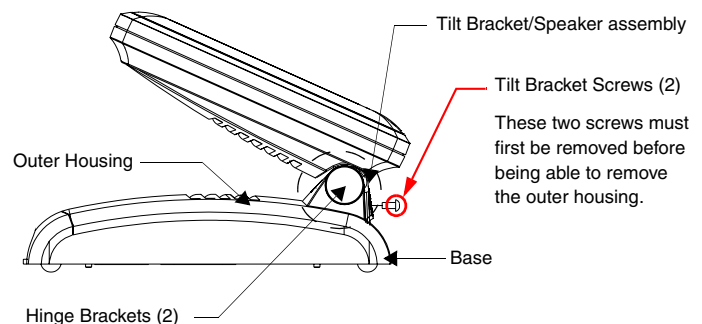

FIG. 7 Location of the attachment screws underneath an NXT panel base
5. Gently tilt the LCD panel backwards to expose the Tilt Bracket/Speaker assembly (FIG. 7).
6. Locate the two screw holes at either sides of the front speaker grill and then use a grounded Phillips-head screwdriver to remove the two Tilt Bracket Screws (FIG. 7).
*Without this step, the Hinge brackets (FIG. 7) present an obstacle to the removal of the outer housing and restrict access to the circuit board.*
2. Locate the two screw holes at either sides of the front speaker grill and then use a grounded Phillips-head screwdriver to both insert and secure the two Tilt Bracket Screws (FIG. 7). This procedure re-secures the rear Tilt Bracket cover plate (*with the AMX logo and Hinge brackets*).
3. Press the outer housing forwards until it is aligned over the outer housing installation holes. Once installed and secured, the tilt bracket prevents any further movement (FIG. 7).